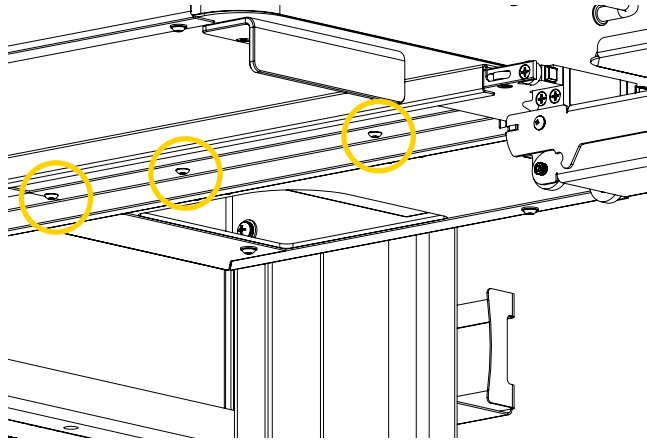

Figure 12: Loosening the screws under the rail on the right-hand side of the 2-part sliding mechanism (1 of 2)
- A. Pull the tray horizontally to retract it and access the three (3) first screws located under the rail on the right-hand side of the mechanism (Figure 12), then loosen them using a $\frac{1}{8}$ in. hex key.